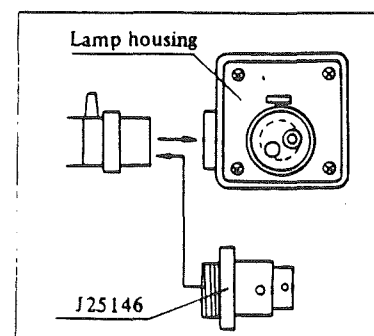

Fig. 48
- 1) Take off the lamp housing, and set the tool J25146. (Fig. 48).